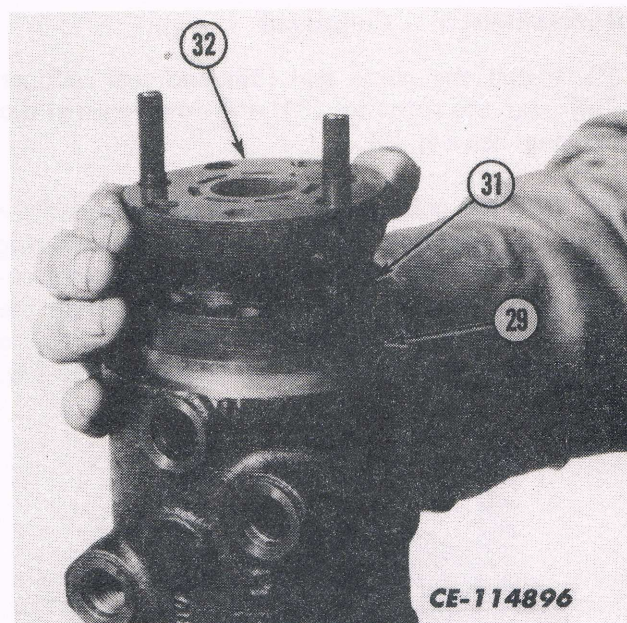

Fig. 23
20. Install the manifold (32) over the assembly posts and onto the rotor set (31). Make sure the circular slot side of the manifold is up. See Fig. 23.